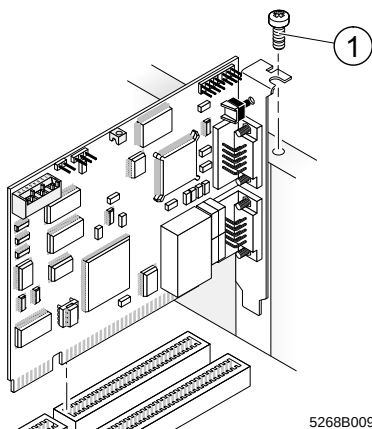

Figure 9 Installing the controller board
4. Fix the controller board with a fixing screw (1) (see Figure 9).